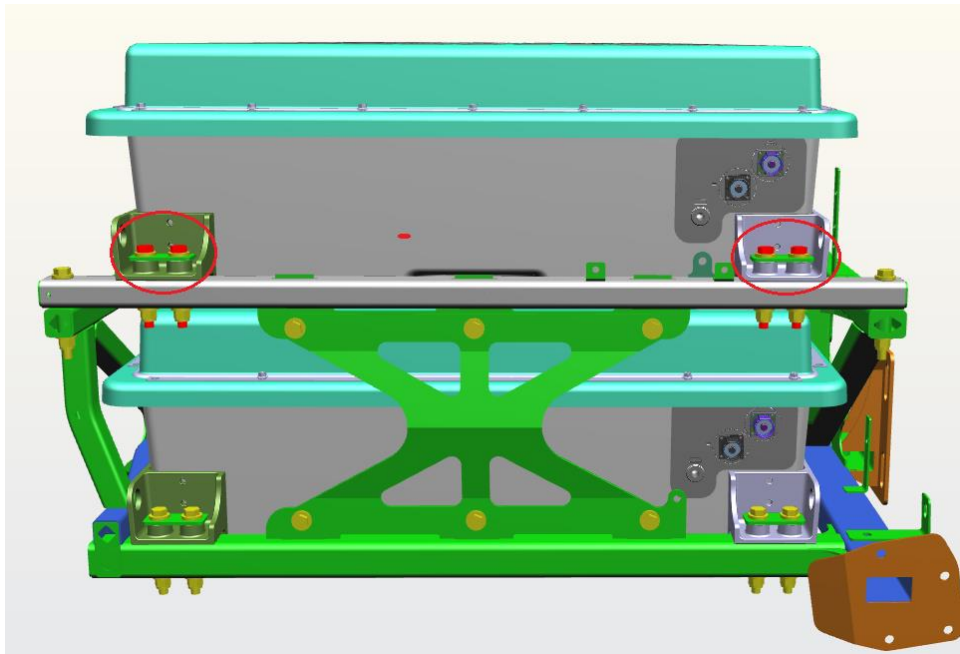

Figure 13: Upper ESS mounting hardware location reference (4 Places Each Side).
21. Remove fasteners securing the upper ESS packs to the frame (four fasteners on each side). See figure 13.